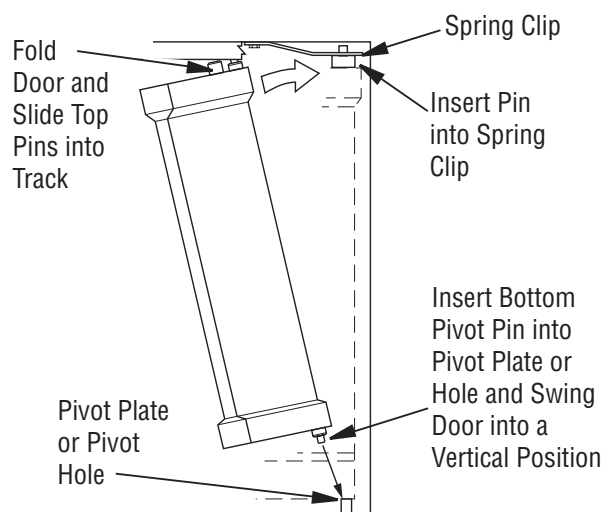

Figure 8: Installing Bi-Fold Glass Door
1. With bi-fold door completely folded, insert bottom pivot pin into pivot plate or pivot hole located near bottom corner of front face opening and swing door to the vertical position making sure top pins slide into door track. Door is installed when top door pin snaps into spring clip (see Figure 8).